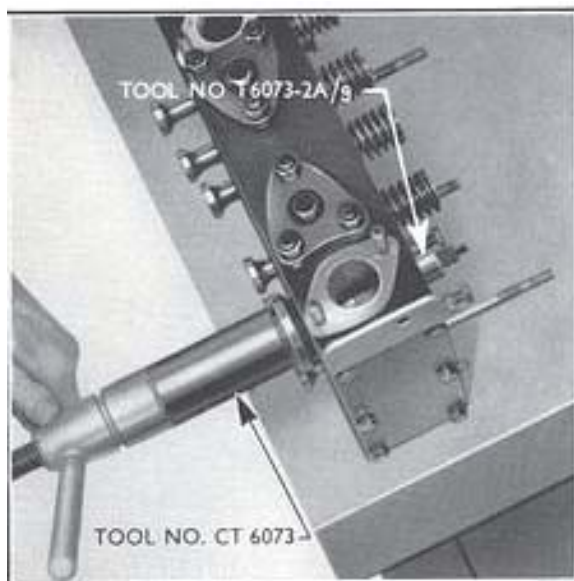

Fig. 6
On engines produced before tractor engine No. 1473070 the vertical location of the guide was determined by a machined stop on the outer diameter of the guide. After engine No. 1473070 the valve guides were manufactured with a parallel O.D. and to ensure the correct guide protrusion of 0.584 in. (14.83 mm.) to 0.594 in. (15.09 mm.) a replacer stop T.6073-2A/g is used in conjunction with the main tool CT.6073 to replace the guides (see Fig. 6).
3. Turn the wing nut to pull the guide into the head (see Fig. 6), and continue until the replacer stop T.6073-2A/g is tight against the cylinder head.